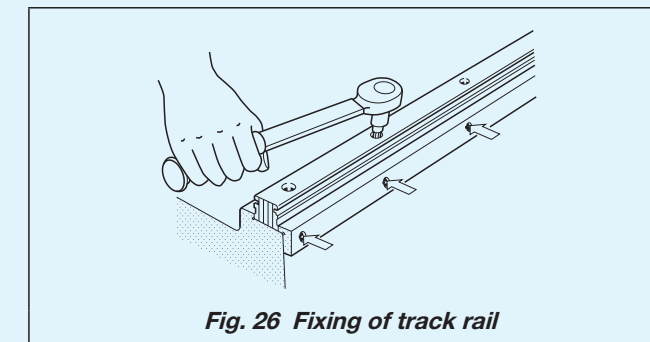

Fig. 26 Fixing of track rail
③ Fixing of Linear Way I and II track rails
- Stick the track rail reference mounting surface of the Linear Way I to the reference mounting surface of the bed with pressure plate or pressure screws and tighten the track rail fixing bolt at the same position. Repeat this method from one end to fix the track rail in order. (See Fig. 26)